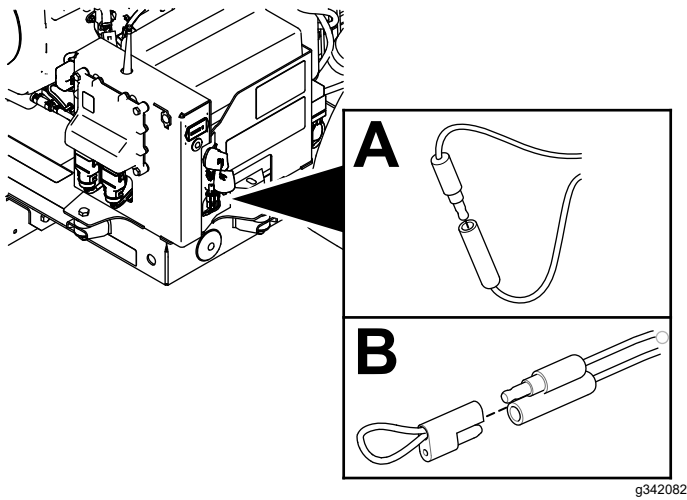

Figure 57
2. Remove the single-pin connector from the single-socket connector (Figure 57).
3. Plug the single-pin connector and the single-socket connector into tethered cap (Figure 57).